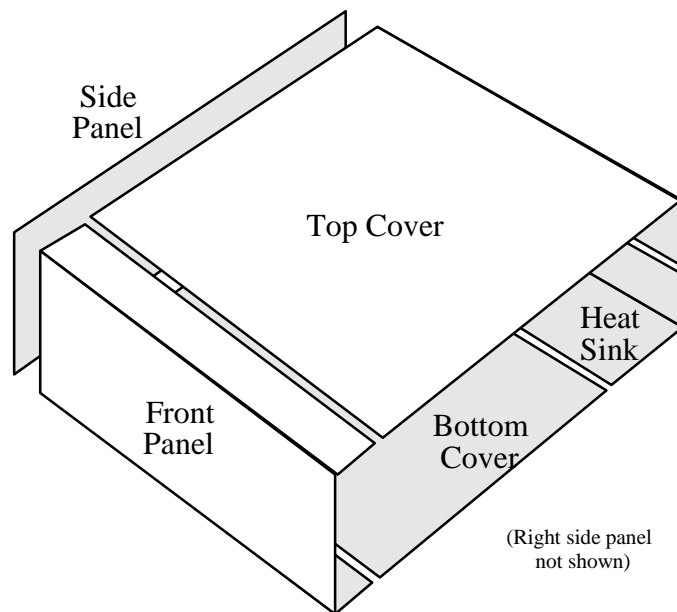

Figure 3-1
The K2 uses modular construction, both physically and electrically. This concept extends to the chassis (Figure 3-1). Any chassis element can be removed during assembly or troubleshooting. (Also see photos in Appendix D.) If the KPA100 is installed, it takes the place of the original top cover.
- six chassis pieces (Figure 3-1)